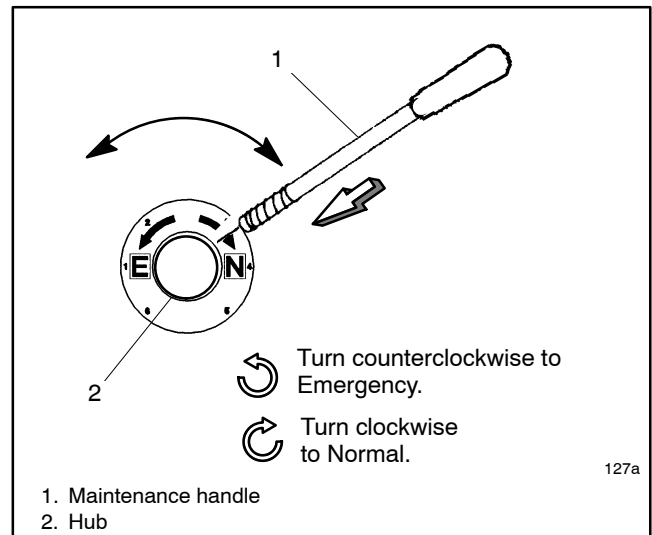

Figure 2-7 Manual Operation, 1600-3000 Amp Standard-Transition Switches
- b. **1600-4000 amp switches:** See Figure 2-7. Slide the hub onto the shaft and insert the maintenance handle into the hole in the hub.